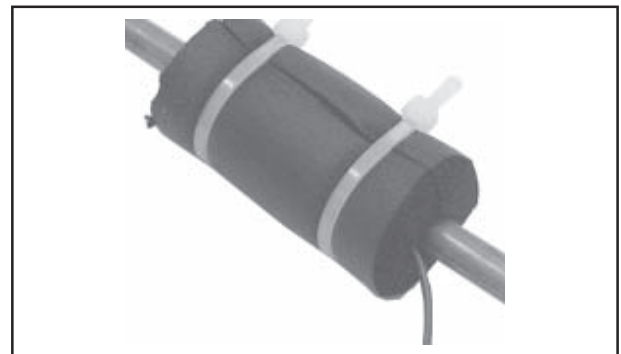

Fig. 5
- e) If the thermocouples are exposed to air flow, protection is recommended by using insulating materials for reducing or eliminating the influence of air over the measuring. Normally, the same tools as those used in the suction line are used (fig. 5).